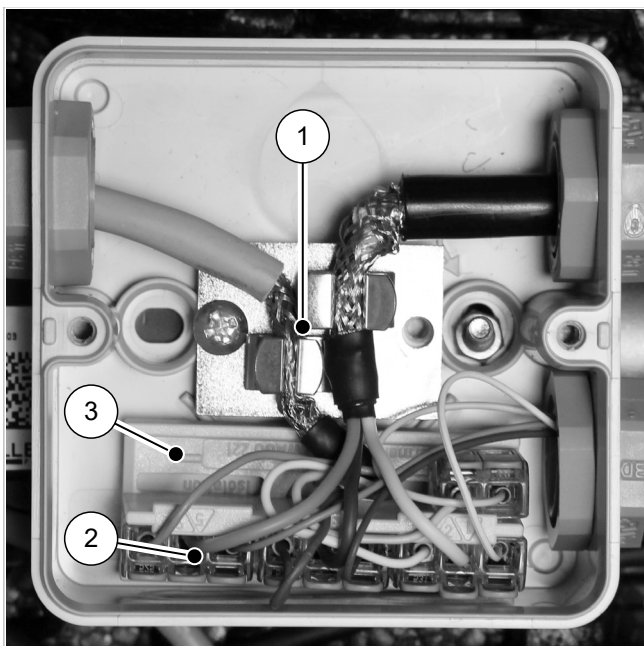

Fig. 10: Modbus connection box
7. If there is no sticker, connect the wires to the terminals according to the following colour coding (see → fig. 10):